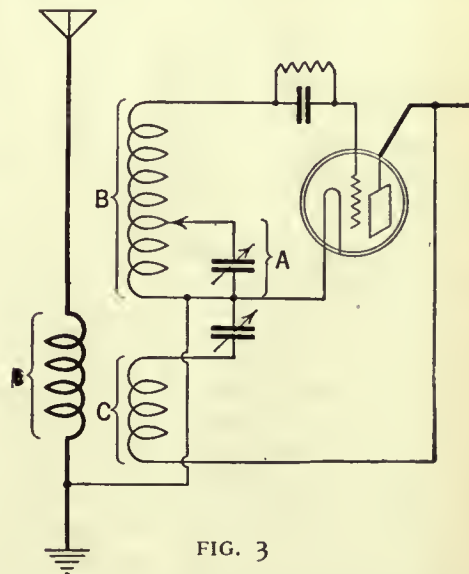

FIG. 3
The diameter of the coils is 3 inches for whatever frequency band the coil is designed to cover. Figs. 3 and 4 show the number of turns to be used for each frequency band. Three coils were used by the author to cover the amateur bands.
Of the Eltz five-tube short-wave super-heterodyne is shown in this illustration. The coils, starting at the lower one, are: (1) A-B; (2) C; (3) D. These letters may be explained by reference to Fig. 3 on this page. The flexible lead for tapping A-B may be clearly discerned.
to Fig. 3, it will be also observed that three coils are used. The coil in the plate circuit of the tube preceding the detector and the coil in the grid circuit of the detector comprise the tuning or filter circuit. The coil in the plate circuit of the detector tube is the feed-back coil by means of which the beat note of 1000 cycles is created in the second detector tube.